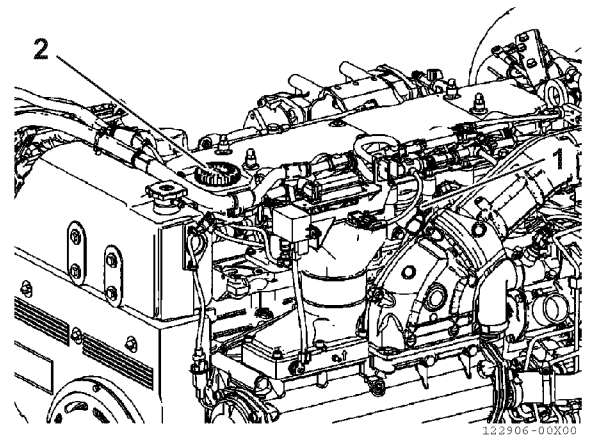

Figure 1
- Use the dipstick (**Figure 1, (1)**) to check that the oil level is between the "MIN" and "MAX" limits.
- If the level is too low, remove the relevant plug (**Figure 1, (2)**) and top-up through the filler inlet on the cylinder head observing the quantities indicated on the page 35.